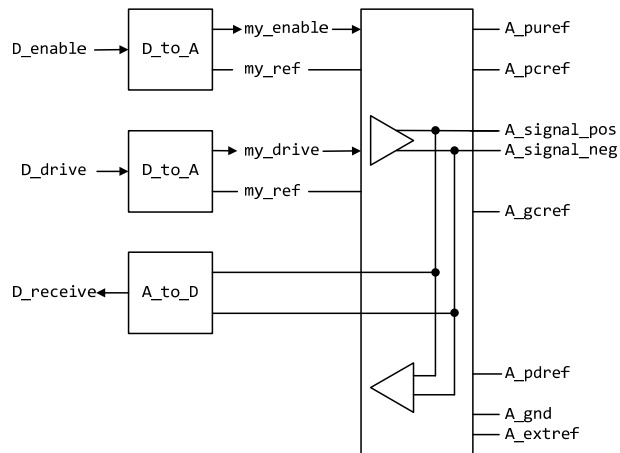

Figure 28 - Example SPICE, Verilog-A(AMS) or VHDL-A(AMS) Implementation of a True Differential Buffer
The D_to_A or A_to_D adapters used for SPICE, Verilog-A(MS) or VHDL-A(MS) files may be set up to control or respond to true differential ports. An example is shown in Figure 28.